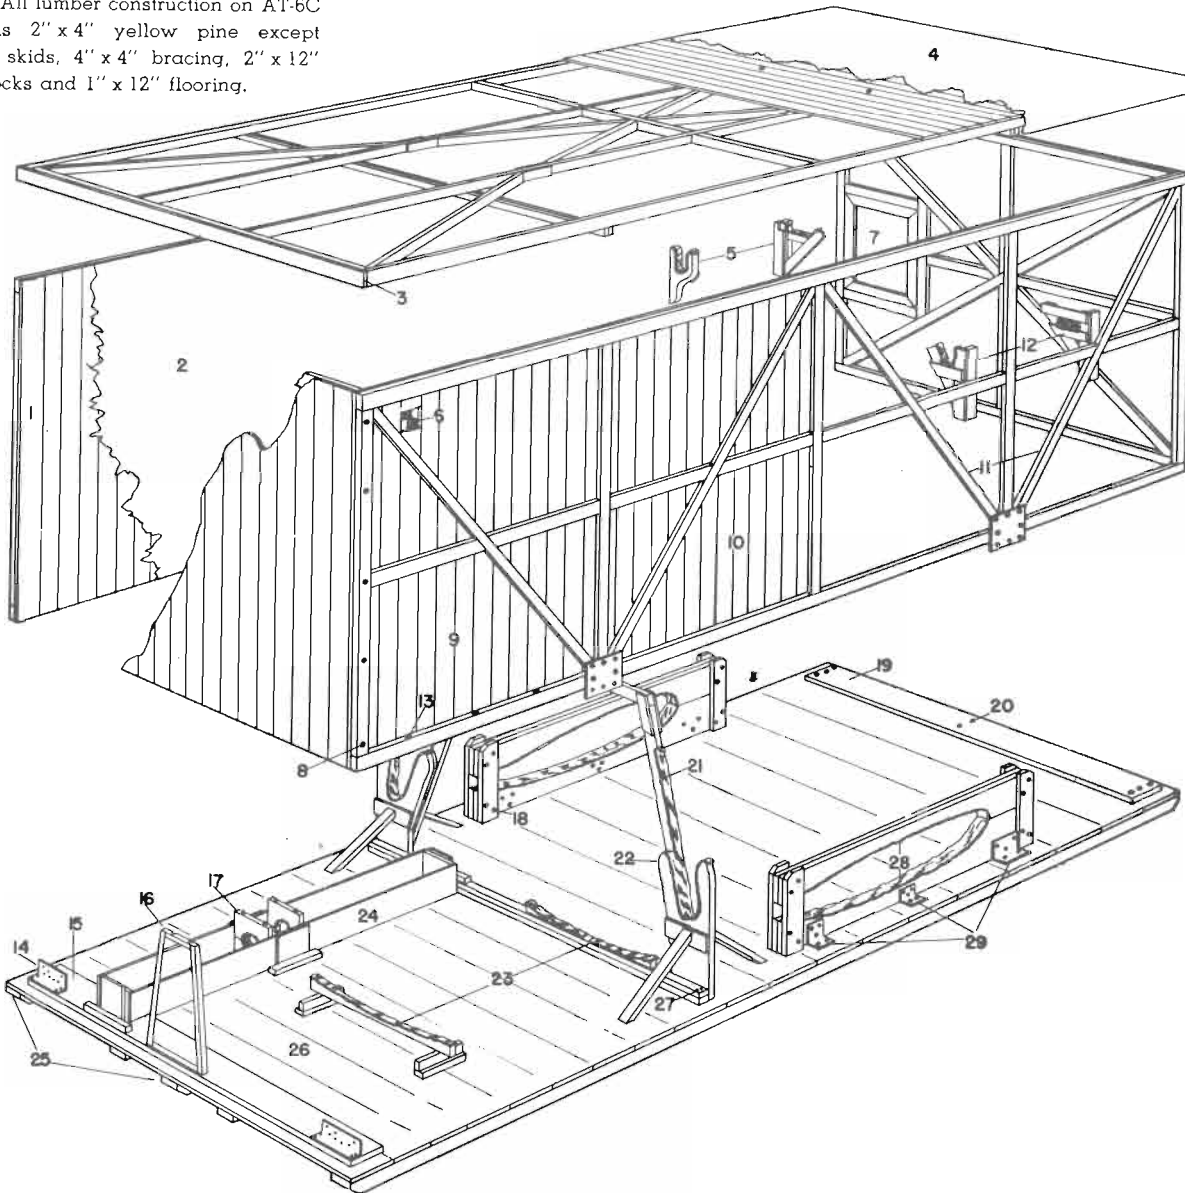

Figure 8 — Airplane Crate
a. GENERAL.—(See figures 8, 9, 10, 11.)—After preparations for crating have been made, which include the draining of fuel, oil, and hydraulic systems (exclusive of the brake system), and the coating of exposed metal parts with a film of corrosion preventive, the airplane then is partially disassembled to facilitate shipment. The main section of the airplane, consisting of the entire fuselage, wing center section, and power plant, is hoisted into position on the platform section of a wooden crate. The crate consists of the platform and the ceiling and wall assemblies, which are hoisted into their proper positions and rigidly secured by bolts and screws. The wing outer panels, tail assemblies, propeller, and loose equipment are securely mounted by means of webbing to "cradles" in various positions in the crate. After the crating has been completed, the waterproofed roof inspected for possible cracks or tears, final inspection seals affixed, and hoisting notches cut to facilitate further handling, the airplane is ready for shipment. Location of cradles and containers within the crate are listed as follows:
Key to Figure 8
- (l) Assemble sides and support with cross braces, using dollies, hoists, or any other available equipment. Lag screws and bolts are used in assembling, as illustrated in figure 8.